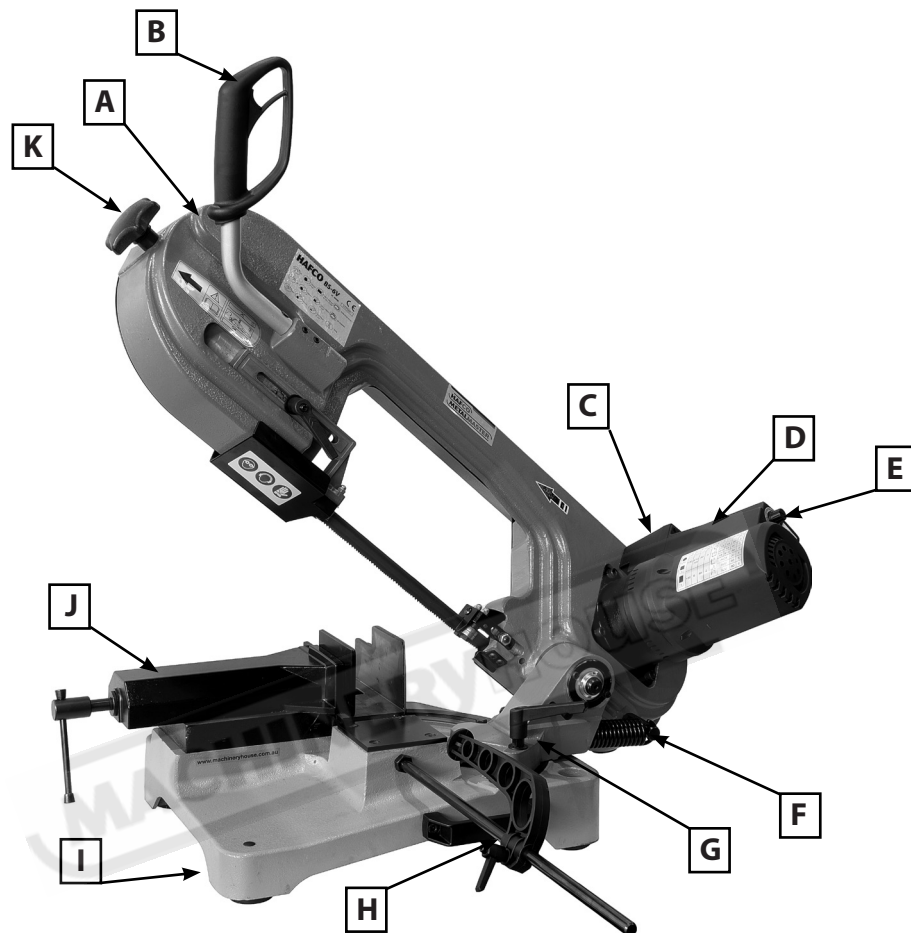

Fig. 1
("K" Fig. 1 on Page 3)
9. Re-tension the blade using "K" Fig.1 Page 3